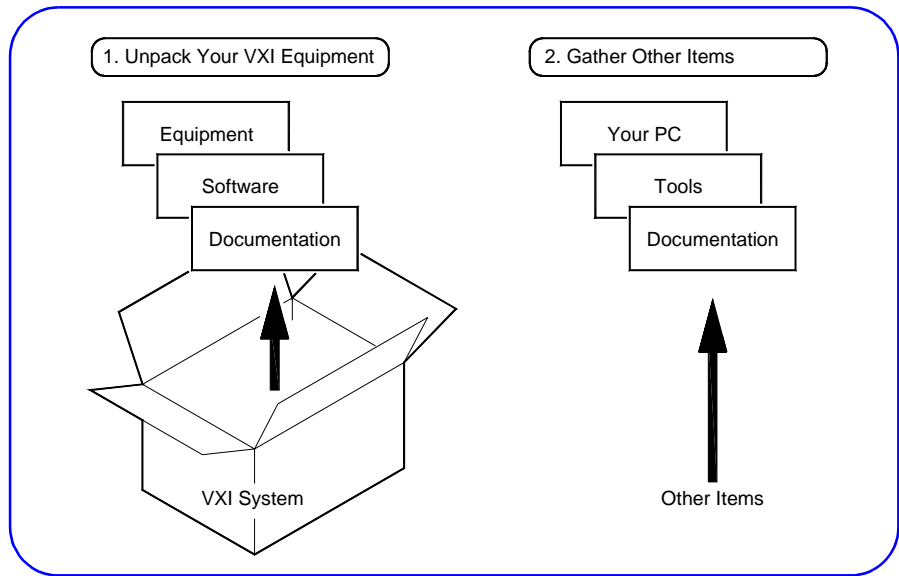

Figure 4. Inventory/Gather Equipment
- 1 Unpack and inventory hardware, software, and documentation for your VXI system (see Figure 4). For pre-configured systems, you can use the *Packing List* that accompanied this guide to check the equipment contents.
- 2 Gather other items not received with your system, such as your PC and PC I/O cards, computer documentation, tools, etc., that you may need to assemble your system (see Figure 4).